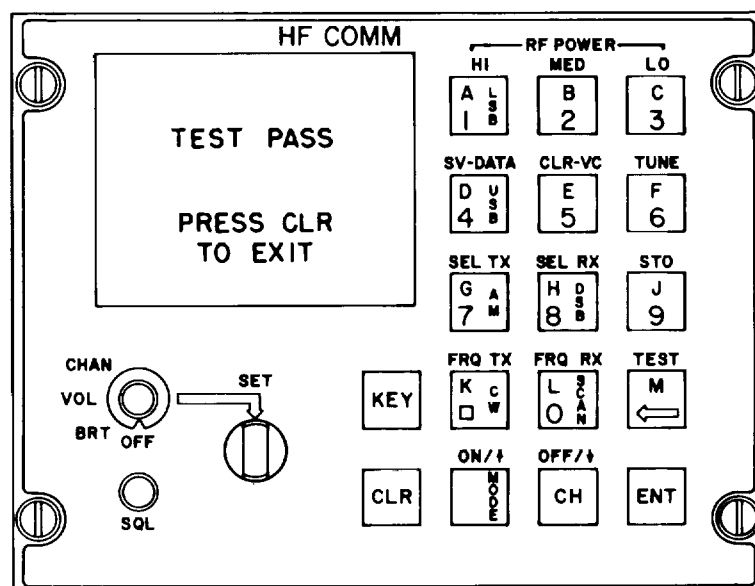

Figure 2-34. Passed Test Display
- (3) **Passed test display.** Refer to figure 2-34. For a passed test, the CRT screen displays the words TEST PASS, and gives test exit instructions at the bottom of the screen.
- (4) **Antenna Coupler Tests.** For the AN/VRC-86(V)3 configuration, further tests can be performed to isolate failures in the antenna coupler. The procedures for performing these tests are found in chapter 3.